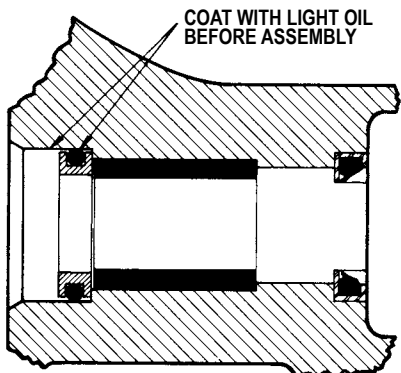

**FIGURE 5
11. If KK-260-G, (**See Figure 5**) remove the needle bearing from the bracket. If 200-G Series **see Step 12.**